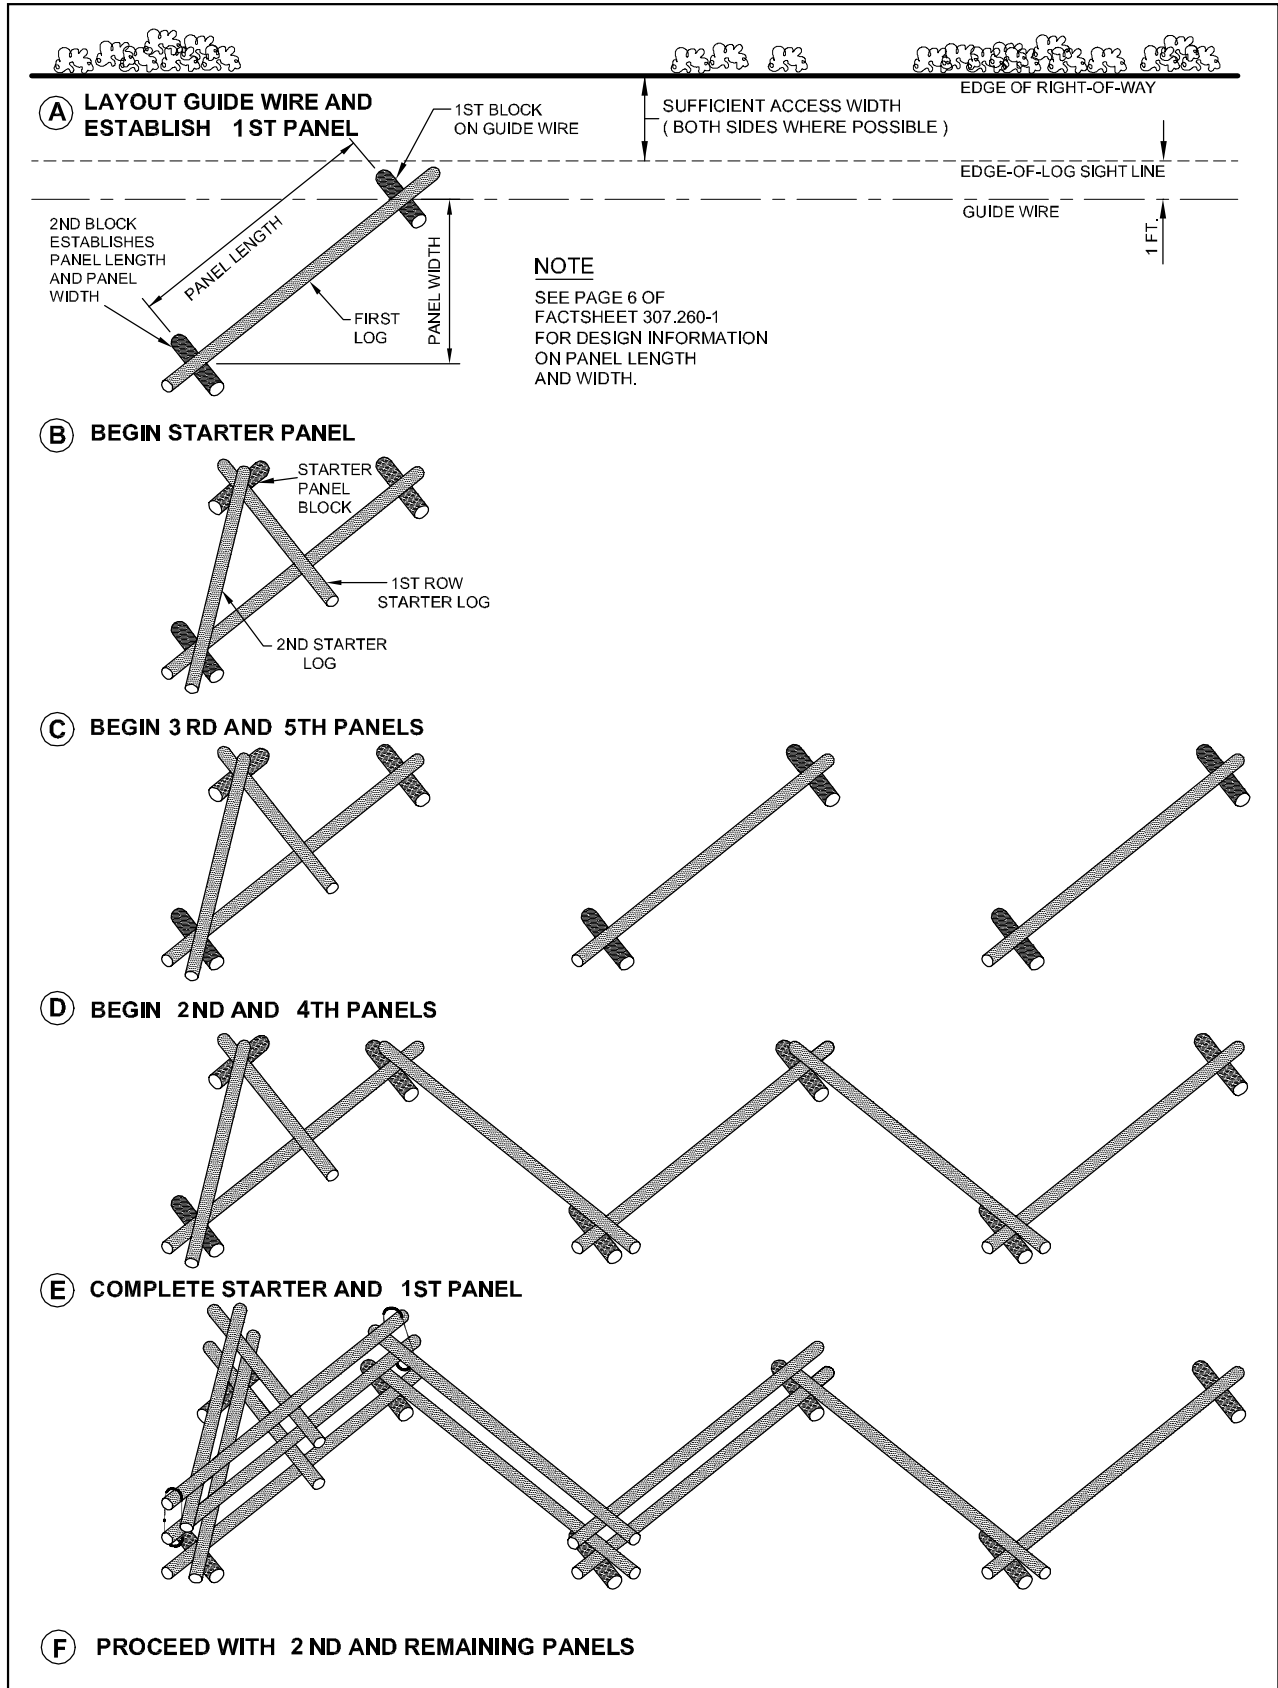

Figure 2
See Figure 2 below and design information on page 6 of Factsheet 307.260-1.
- Follow the procedure below as shown in Figure 2.
- Use peeled wooden starter blocks (pressure treated preferred; or flat rocks where available) set out the panel length for the first panel. The first block will be set at the guide wire and the other set to the fence side to establish the 'snake' (the second block will be the panel length from the first and the panel width from the guide wire). See Figure 2 (A)
- Set the starter panel block about 6 or 7 feet away from the first panel block and about the same distance from the first panel, bottom log. Notch and set the first row starter log (about one-half a regular log length) on this starter block and back onto the midpoint of the bottom first panel rail (make a small notch so it will sit on this rail). See Figure 2 (B)
- Before the first panel, second row log can be set, the second to fifth panels must be started i.e., the first, third and fifth panels will each have the two starter blocks set and each will have the bottom log notched and set in place). See Figure 2 (C)
- The first row log can now be set in the second and fourth panels (notched and set on top of the bottom logs of the adjacent panels). See Figure 2 (D)
- The second row log in the first and third panels is notched and set. See Figure 2 (E)